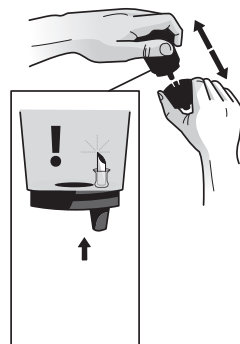

FIGURE 1
2. Cleaning the Funnel – The Funnel can be removed from the K-Cup® pack Holder by pulling on it until it snaps off (fig. 1). The Funnel is dishwasher safe. To replace it, just snap it back onto the K-Cup® pack Holder Assembly.